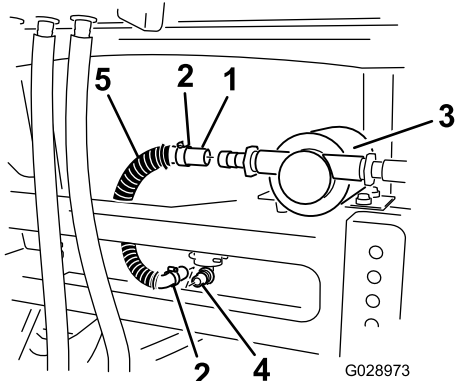

Figure 27
2. Install 1 end of the hose to the 90° fitting at the bottom of the rinse tank (Figure 27).